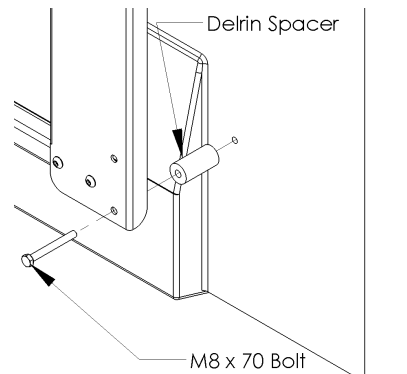
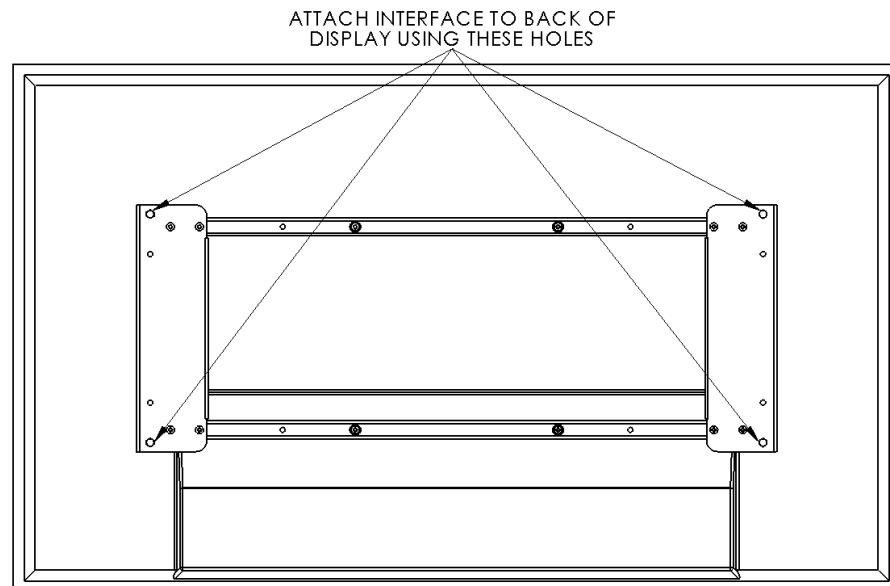

Figure 6
Figure 7
- Place Delrin spacers over mounting holes on back of screen. Attach mounting brackets to the display using the M8 screws (see Figure 6 & Figure 7).